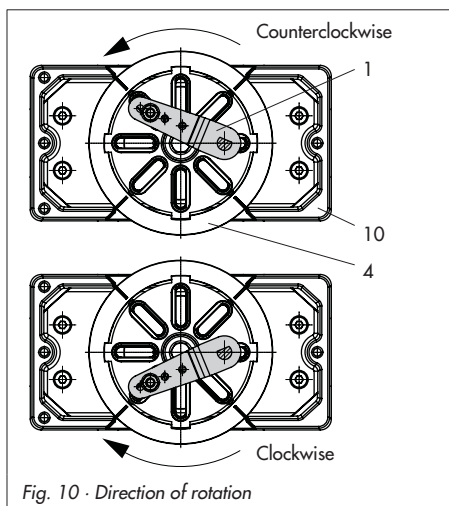

Fig. 10 · Direction of rotation
7. Place positioner on housing (10) and screw it tight. Considering the actuator's direction of rotation, align lever (1) so that it engages in the correct slot of the coupling wheel with its follower pin (Fig. 10).